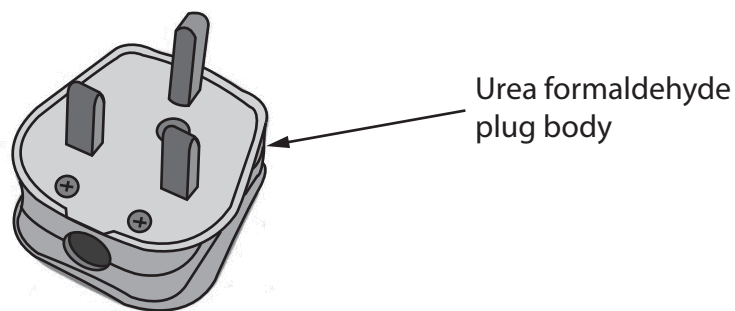

Figure 1
- (b) Figure 1 shows an electrical plug. The body of the plug is made of urea formaldehyde as it is a good electrical insulator.